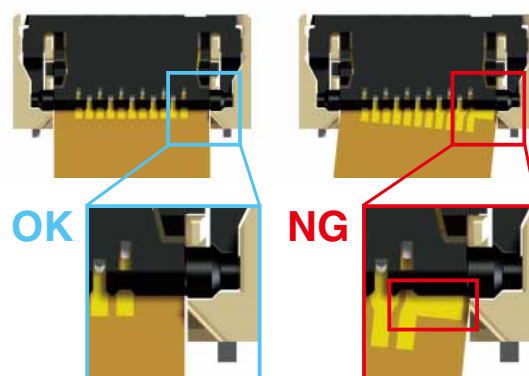

Fig.4
- Can detect mis-mating by checking the FPC insertion status with FPC pattern (Fig.4).